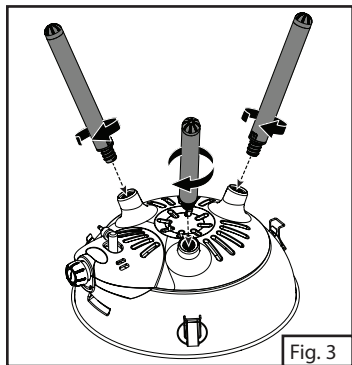

Fig. 3
- Screw legs clockwise into the sockets on the underside of the stove body. (Fig. 3)